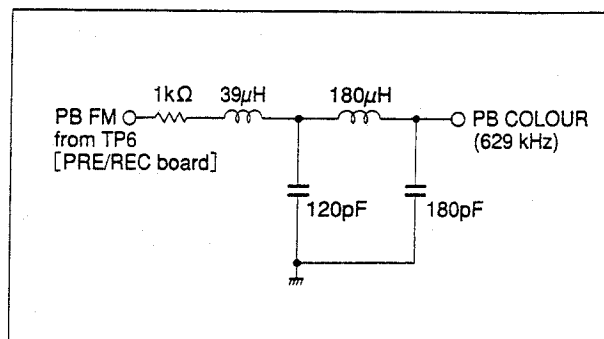
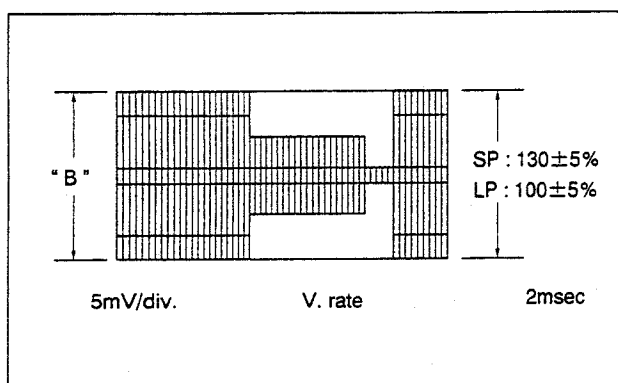

Fig. 3-4-7 LPF
Fig. 3-4-8 REC colour level
- (1) Use a LPF as shown in Fig. 3-4-7.
- (2) Playback the SP (LP) colour bar signal of MH-2H alignment tape.
- (3) Set the tracking to the Auto tracking off position by pressing the **///** button of the remote controller.
- (4) Adjust by pressing the TV PROG "-" or "+" buttons of the remote controller for maximum level of the colour waveform and make a note of the higher colour level "B".
- (5) Press the STOP/EJECT button and eject the MH-2H alignment tape.
- (6) Set EVR mode by pressing "K" button of the presetting unit more than 2 seconds.
- (7) Set "A : 2" by pressing 2 numeric key of the remote controller.
- (8) Record a colour bar signal in SP (LP) mode, and playback recorded colour bar signal.
- (9) Before recording, adjust TV PROG "-" or "+" button of the remote controller so that the higher level channel becomes $130 \pm 5\%$: SP ($100 \pm 5\%$: LP) of the note "B" level during playback as shown in Fig. 3-4-8.
- (10) Set normal VCR mode by pressing "K" button again so adjustment data is memorized.